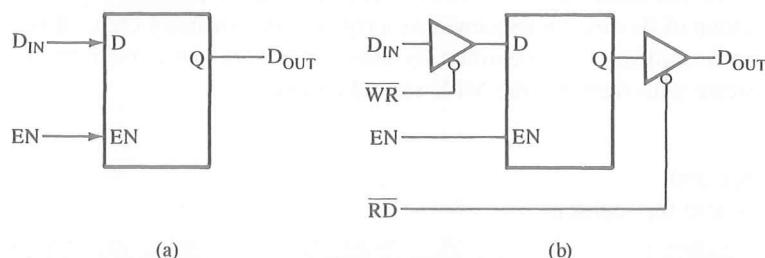
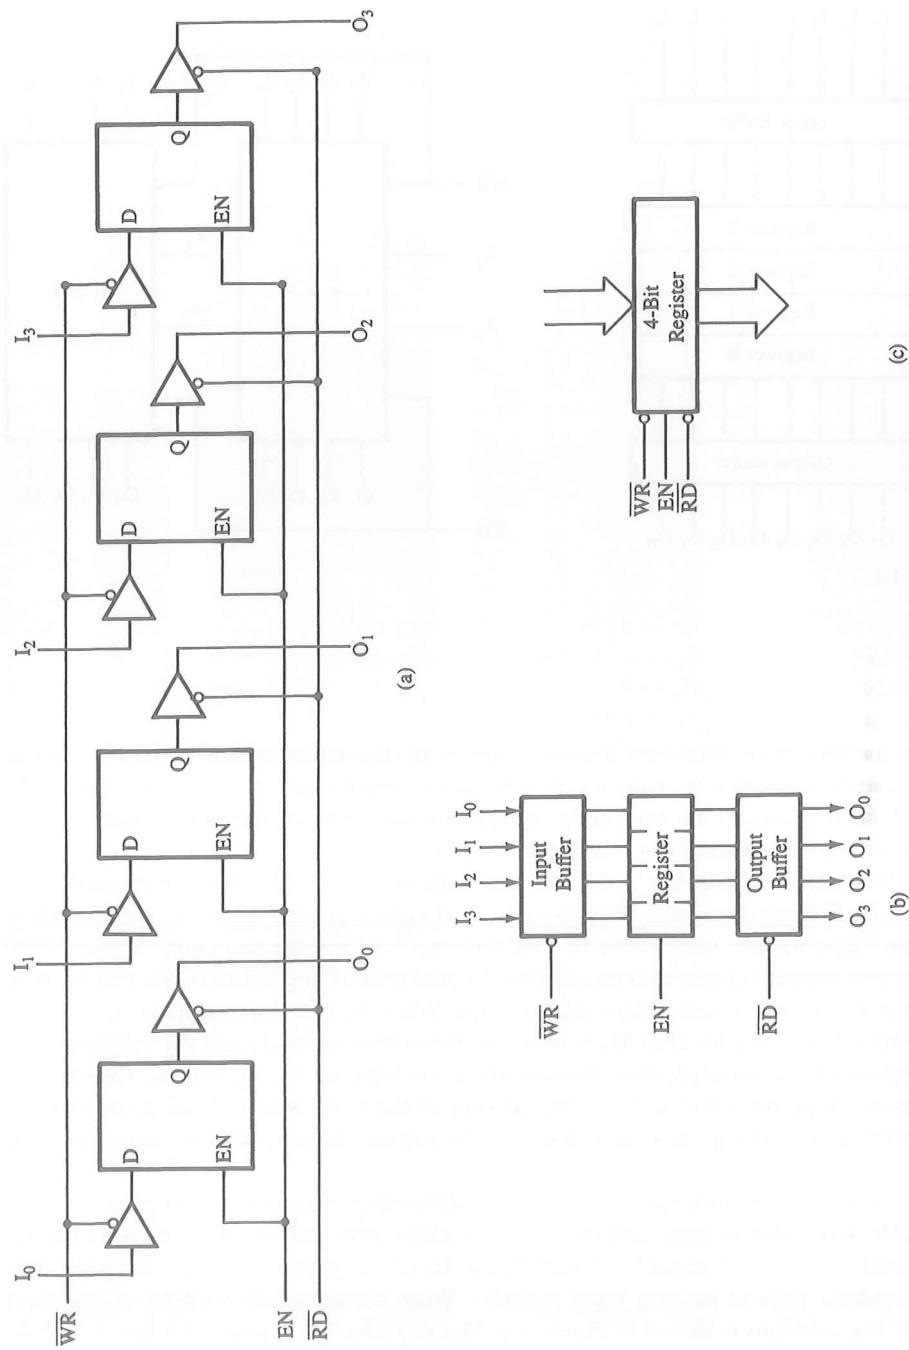
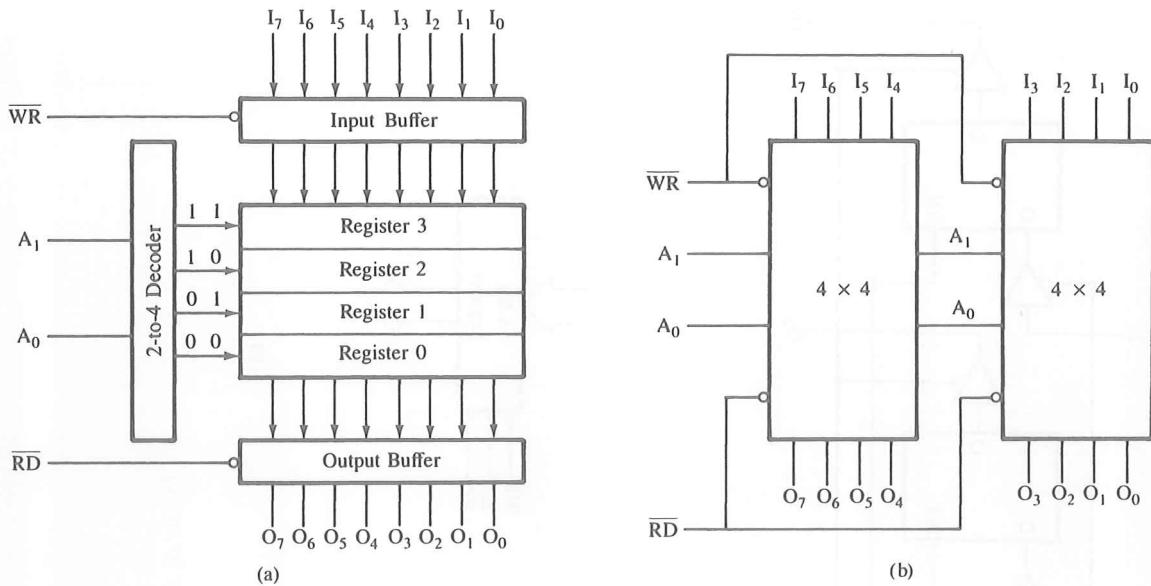

FIGURE 3.4
FIGURE 3.5
FIGURE 3.6
What is memory? It is a circuit that can store bits—high or low, generally voltage levels or capacitive charges representing 1 and 0. A flip-flop or a latch* is a basic element of memory. To write or store a bit in the latch, we need an input data bit (D_{IN}) and an enable signal (EN), as shown in Figure 3.4(a). In this latch, the stored bit is always available on the output line D_{OUT} . To avoid unintentional change in the input and control the availability of the output, we can use two tri-state* buffers on the latch, as shown in Figure 3.4(b). Now we can write into the latch by enabling the input buffer and read from it by enabling the output buffer. Figure 3.4(b) shows the Write signal as \overline{WR} and the Read signal as RD ; these are active low signals indicated by the bar. This latch, which can store one binary bit, is called a memory cell. Figure 3.5(a) shows four such cells or latches grouped together; this is a register, which has four input lines and four output lines and can store four bits; thus the size of the memory word is four bits. The size of this register is specified either as 4-bit or 1×4 -bit, which indicates one register with four cells or four I/O lines. Figures 3.5(b) and (c) show simplified block diagrams of the 4-bit register.
In Figure 3.6, four registers with eight cells (or an 8-bit memory word) are arranged in a sequence. To write into or read from any one of the registers, a specific register should be identified or enabled. This is a simple decoding function; a 2-to-4 decoder can perform that function. However, two more input lines A_1 and A_0 , called address lines, are required to the decoder. These two input lines can have four different bit combinations (00, 01, 10, 11), and each combination can identify or enable one of the registers named as Register 0 through Register 3. Thus the Enable signal of the flip-flops in Figure 3.5 is replaced by two address lines in Figure 3.6. Figure 3.6(a) has 8-bit registers and Figure